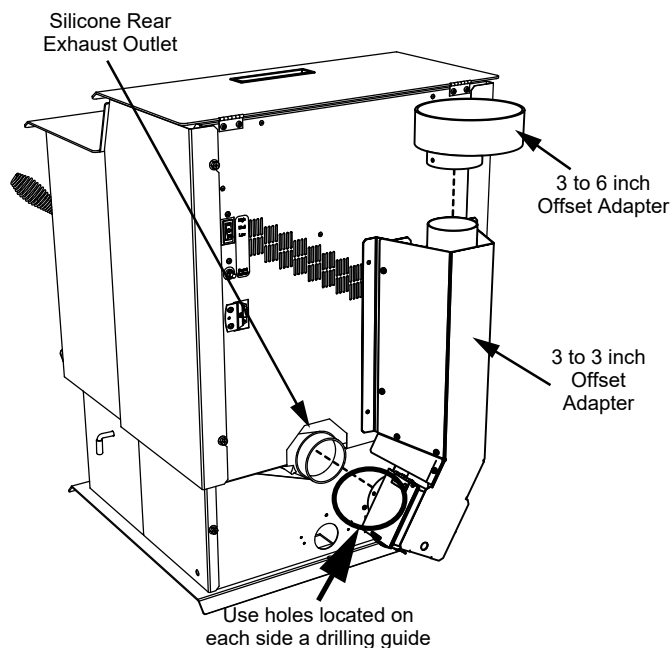

Figure 23.1
1. Put a layer of high temperature silicone on the 3 inch (76mm) exhaust outlet. Do not put silicone inside of pipe (**Figure 23.1**).
2. Slide the top vent adapter onto the rear exhaust outlet and adjust the assembly to a vertical position (**Figure 23.1**).
3. Drill 4 holes with #26 drill bit (provided) into the back of the appliance using the outer shield as a pattern (make sure the assembly is vertical) (**Figure 23.1**).
5. Drill 2 holes with #26 drill bit through the rear exhaust outlet using the 2 holes already in the short horizontal pipe in the top vent adapter as a guide. Install the 2 screws (**Figure 23.1**).
7. To clean the top vent adapter open the clean-out cover (**Figure 23.1**).